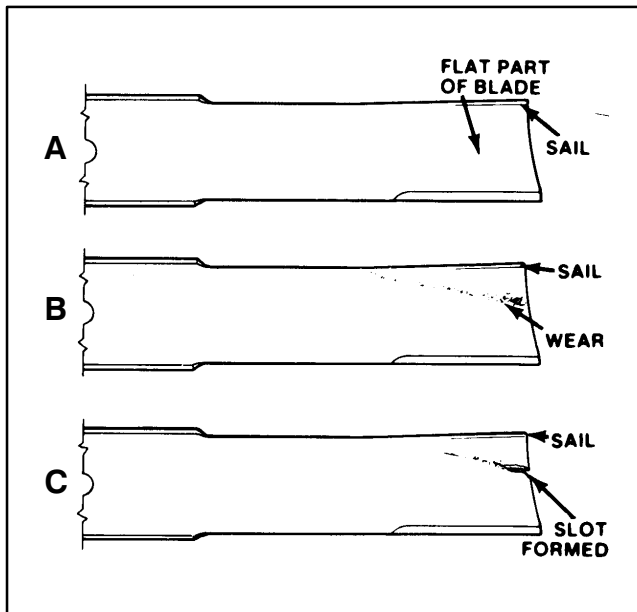

Figure 31
CHECKING SAIL AND SHARPENING CUTTER BLADE (Fig. 31–32)
2. Examine cutting ends of the blade carefully, especially where the flat and curved parts of the blade meet (Fig. 31–A). Since sand and abrasive material can wear away the metal that connects the flat and curved parts of the blade, check the blade before using the mower. If wear is noticed (Fig. 31–B), replace the blade.
If blade is allowed to wear, a slot will form between the sail and flat part of the blade (Fig. 31–C). Eventually a piece of the blade may break off and be thrown from under the housing, possibly resulting in serious injury to yourself or bystanders.